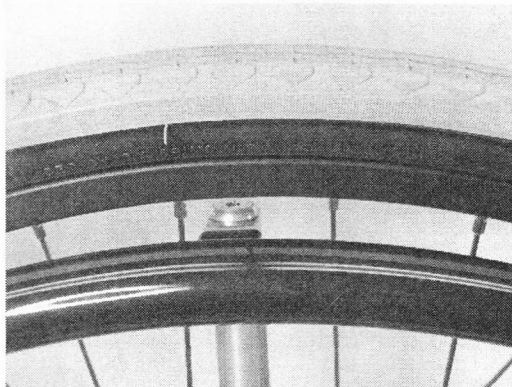
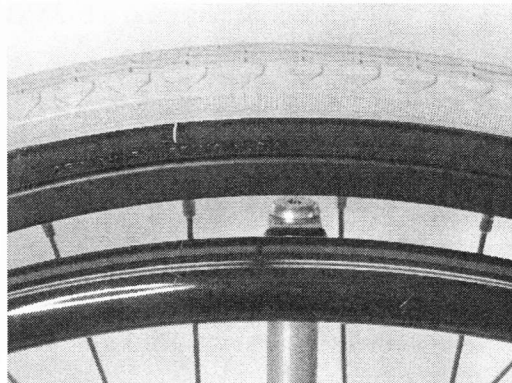

Figure 6 - Push Rim Assembly Arm with free play taken up in counter-clockwise direction
Figure 7 - Push Rim Assembly Arm with free play taken up in clockwise direction
8. Using just enough force to take up the free play in the Push Rim Assembly, rotate the Push Rim back and forth and observe the gap between the Push Rim Assembly Arm and the nearest Wheel Spoke in each direction as shown in **Figure 6** and **Figure 7**.